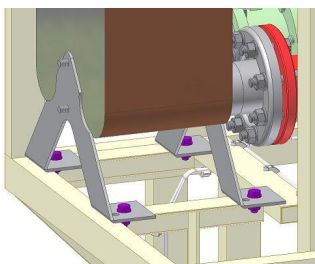

Figure 4.2-5
6. Remove the four M12 screw connections from the base of the heat exchanger (marked violet in Figure 4.2-5).